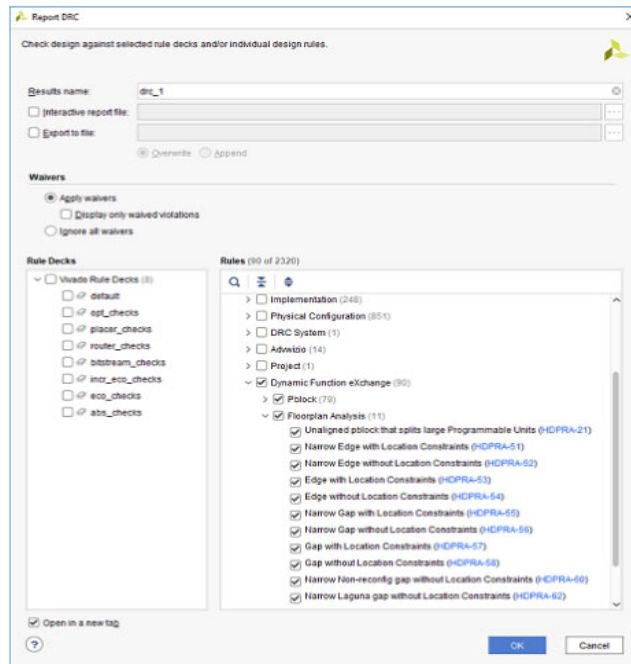

Figure 3-1: Dynamic Function eXchange DRCs in the Vivado IDE
4. Design rule checks (DRCs) can be issued to validate the floorplan and other design considerations for the in-memory configuration. To run, select **Reports > Report DRC** and ensure the Partial Reconfiguration checks are present (see Figure 3-1). Note that if